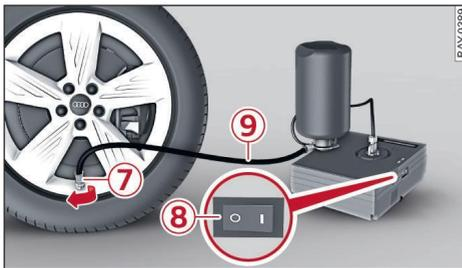

Fig. 133 Connecting the tyre repair kit
- ▶ Take the connector (3) and the compressor hose (4) out from the bottom of the housing.
- ▶ Screw one end of the compressor hose (4) clockwise into the socket (5) on the compressor1). Screw the other end onto the flange (6) of the tyre sealant can (1).
- ▶ Place the tyre sealant can (flange facing down) into the opening (2) on the compressor.
- ▶ Screw the filler hose (9) onto the valve (7) ⇒ Fig. 133.
- ▶ Move the switch (8) ⇒ Fig. 133 on the compressor to position I.